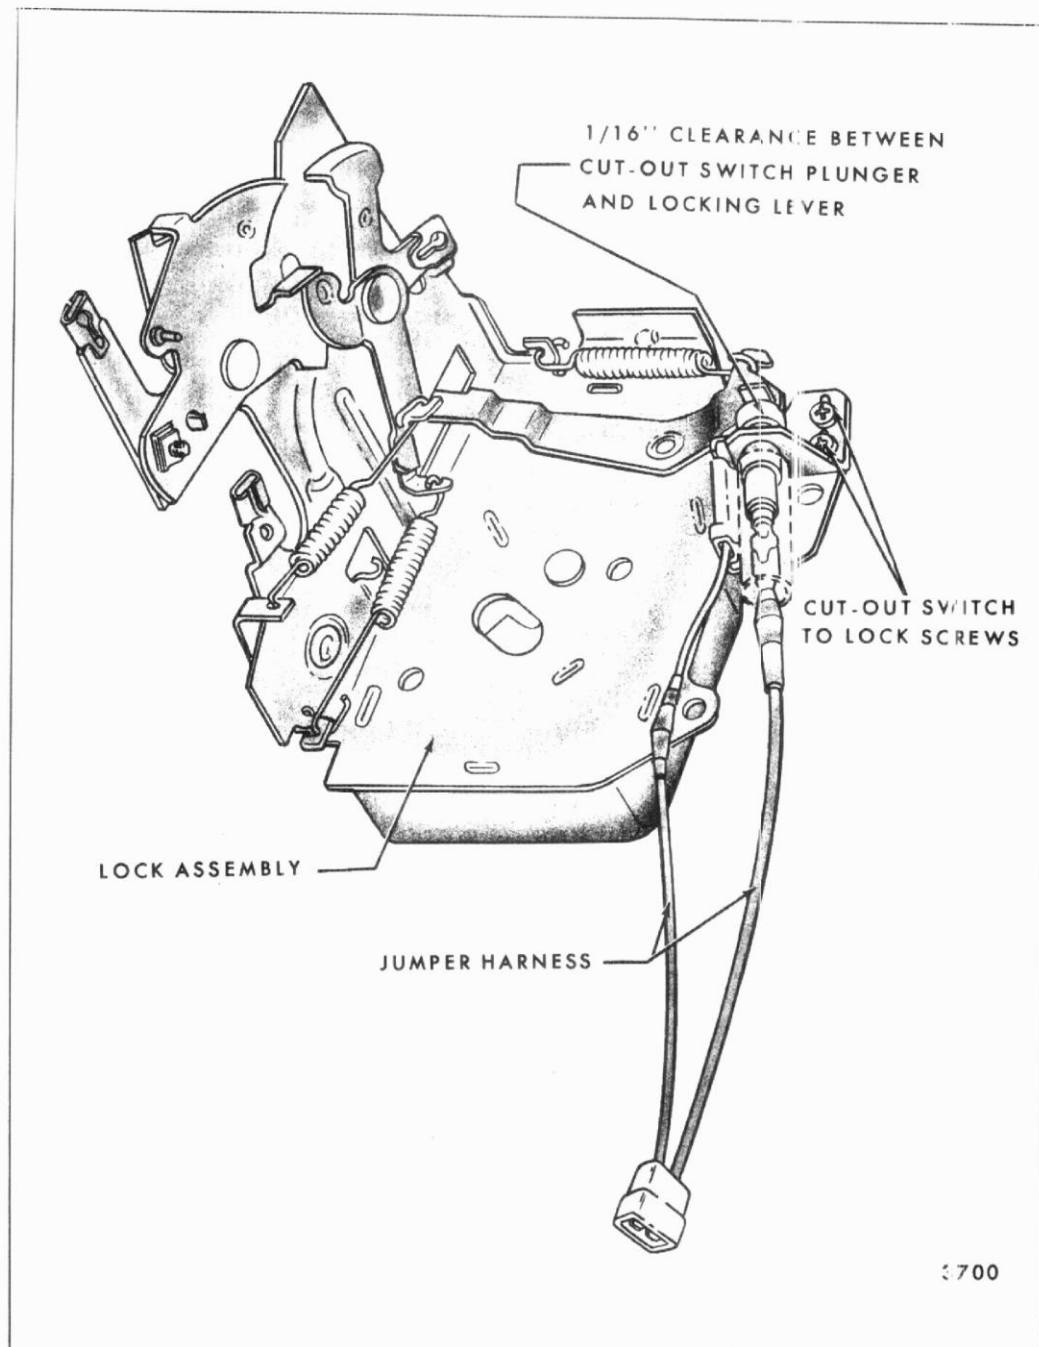

Fig. 9-9-Tail Gate Electrical Cut-Out Switch
3. Remove screws securing switch to right upper lock as shown in Figure 9-9. Disconnect electrical connector and remove switch through access hole.
2. With right upper lock in a locked position, adjust switch to achieve a 1/16" clearance between the cut-out switch plunger and the locking lever (See Figure 9-9).